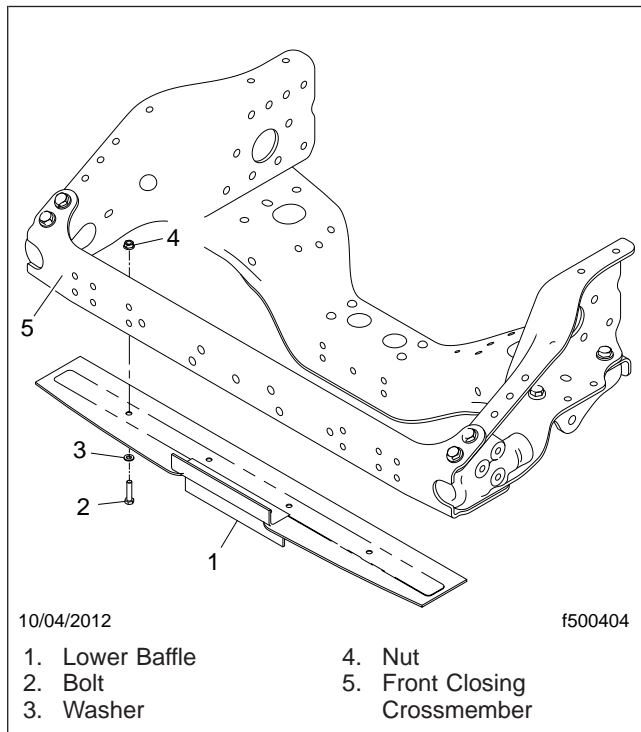

Fig. 10, Lower Baffle Installation
29. Install the new lower baffle on the front closing crossmember. See **Fig. 10**.